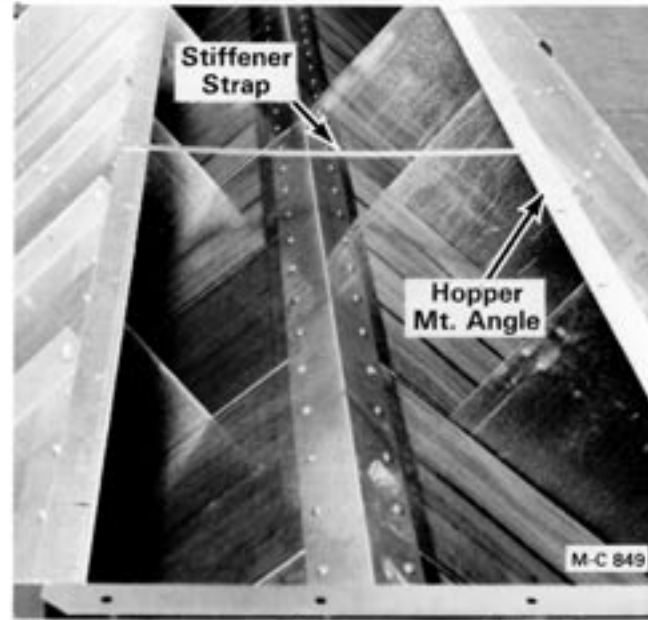

Figure 5
1. Place a stiffener strap (28" long) across the center of the hopper mount angles on the screens (two on 16' and three on 24' dryers), see Figure 5.